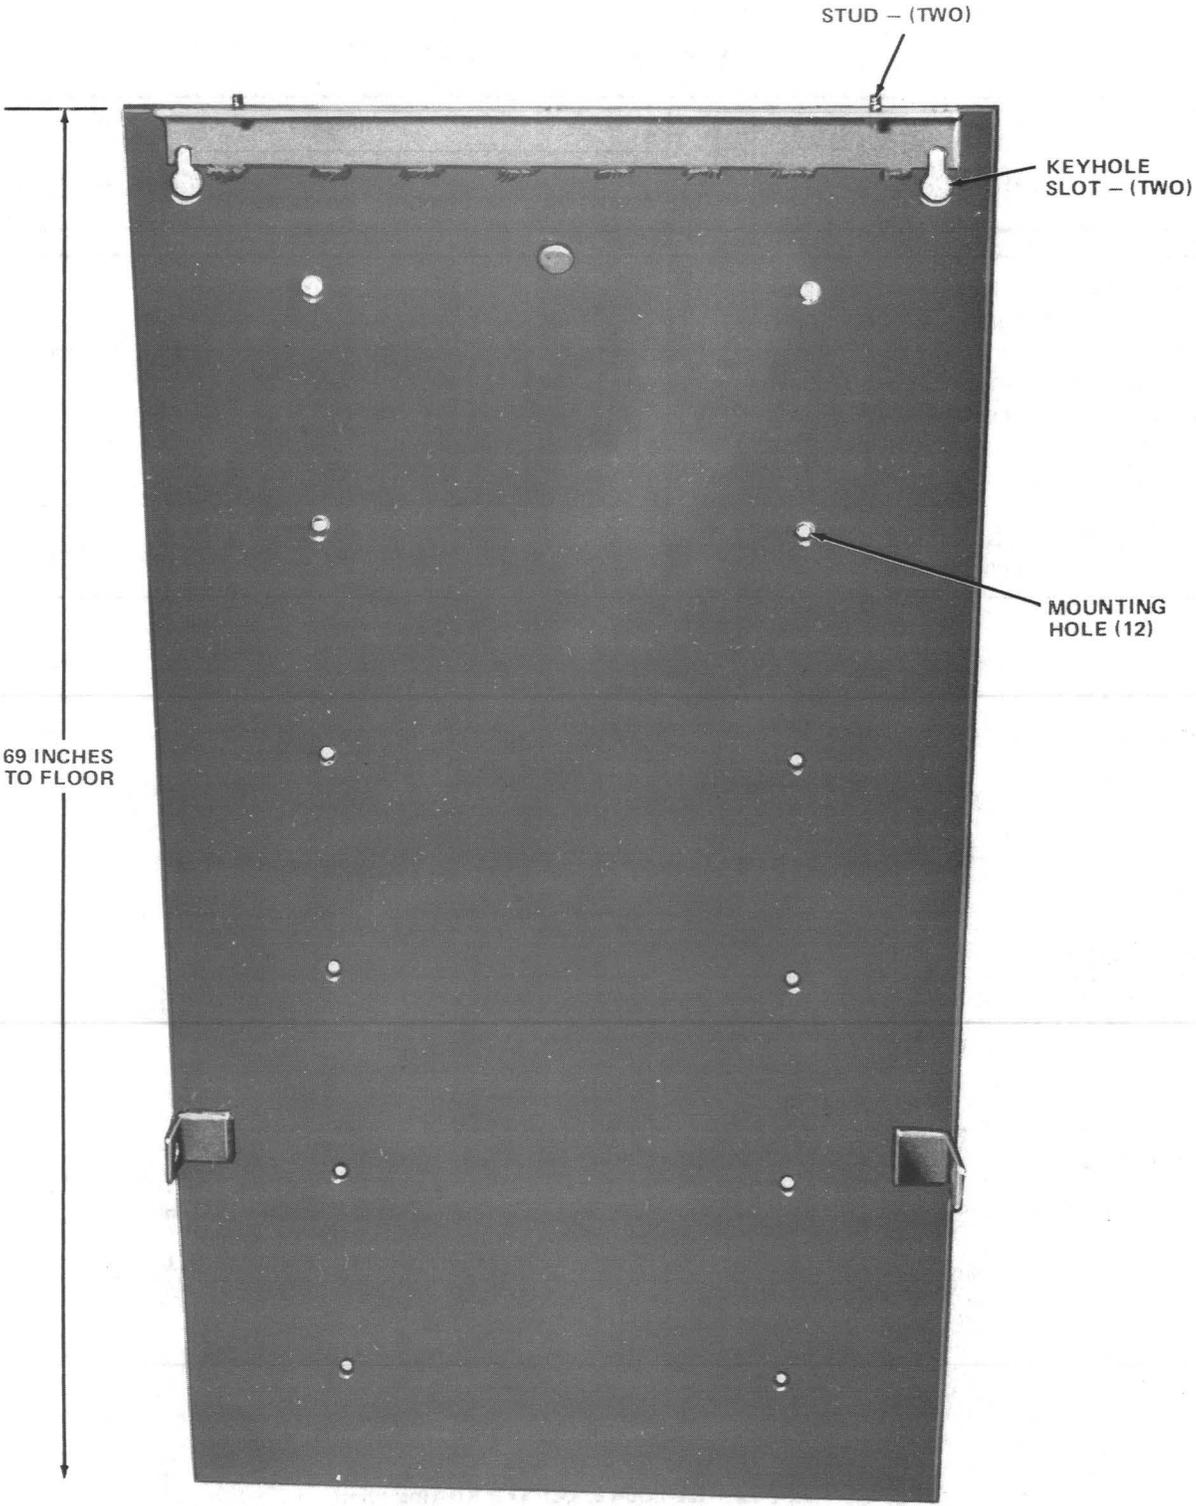

Fig. 11—Rear Panel of Wall Mount
3.13 Hang the enclosure frame on the two studs located on top edge of rear panel (Fig. 11).